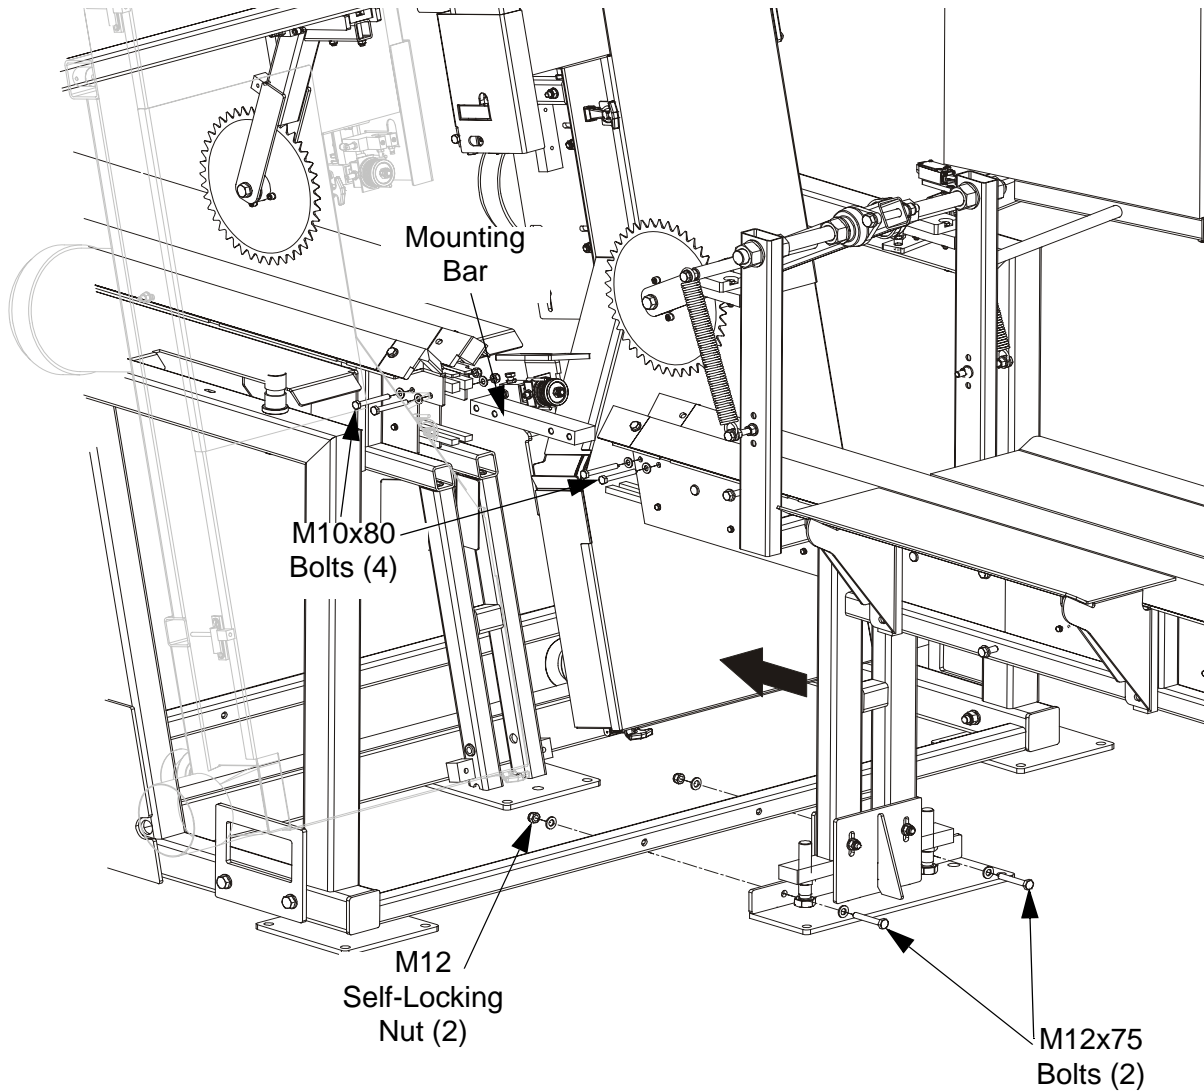

**FIG. 6-18**
**See Figure 6-18.** Move out the saw heads to the maximum width. Slide the front leg of the outfeed table under the TVS frame as shown. Next bolt the table with frame using the two M12x75 bolts and washers.